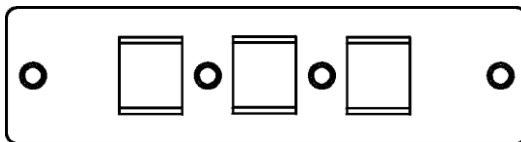

Figure 1: Faceplate Showing Button Cap Wing Orientation
3. Insert the labels into the supplied button caps bearing in mind the button cap orientation (see Figure 1). Note that the button caps must be mounted with the cap wings across the width of the faceplate, not along its length.